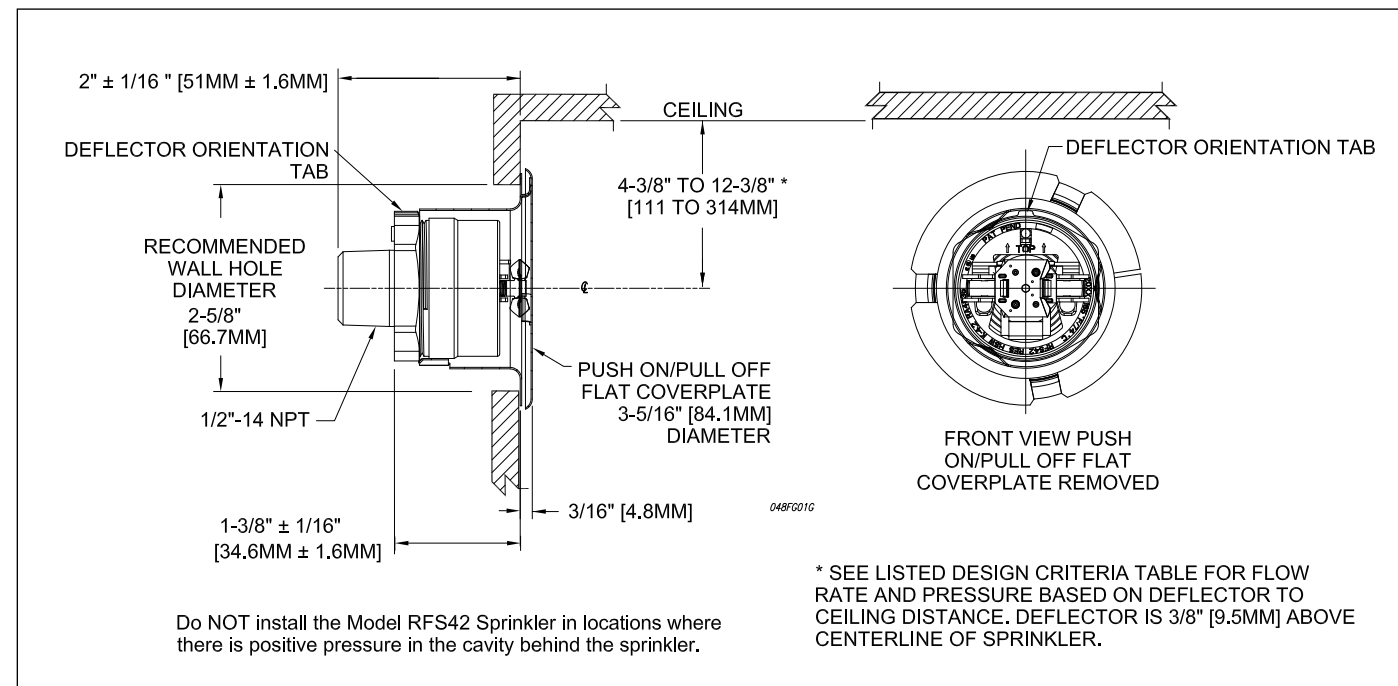

Fig. 1
Do not remove the factory installed plastic protective cap since it is sized to fit inside the G6 wrench. Note that the sprinkler can only mate when the sprinkler's deflector orientation tab (Fig. 1) is aligned with wrench's key-way. The G6 wrench is provided with bubble level pad and TOP marking, to allow the proper orientation of the horizontal sidewall deflector. Final leveling can be done after leak proof joint is obtained with a minimum to maximum torque of 8 to 18 ft-lbs (11 to 24 N-m). Leave the protective cap on to protect the sprinkler while the wall is plastered, wallpapered or painted. The protective cap must be removed and the listed cover plate installed prior to the sprinkler system being placed in service. A 2⁵/₈" (67 mm) diameter hole must be cut in the wall for the sprinkler assembly to extend through.
4. The sprinkler fitting shall be installed so that the rear of the sprinkler is 2 1/16" +/- 1/16" from the finished surface of the wall. Verify wall assembly dimensions prior to installation to ensure that the cover plate attaches to the sprinkler and seats against the finished wall surface (Fig. 1).